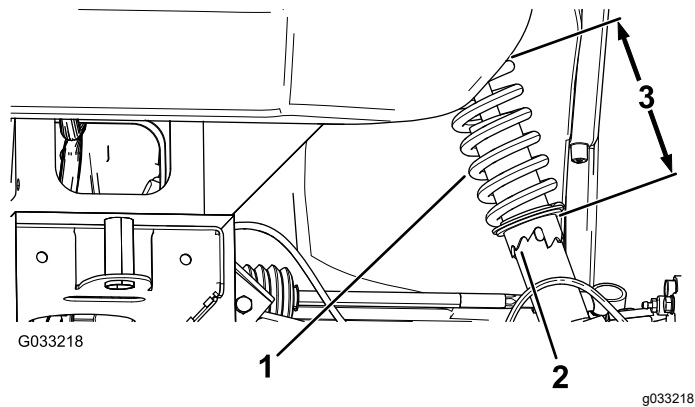

Figure 40
2. If the wheel camber is out of alignment, use the spanner wrench to rotate the collar on the shock absorber to align the wheel (Figure 40).